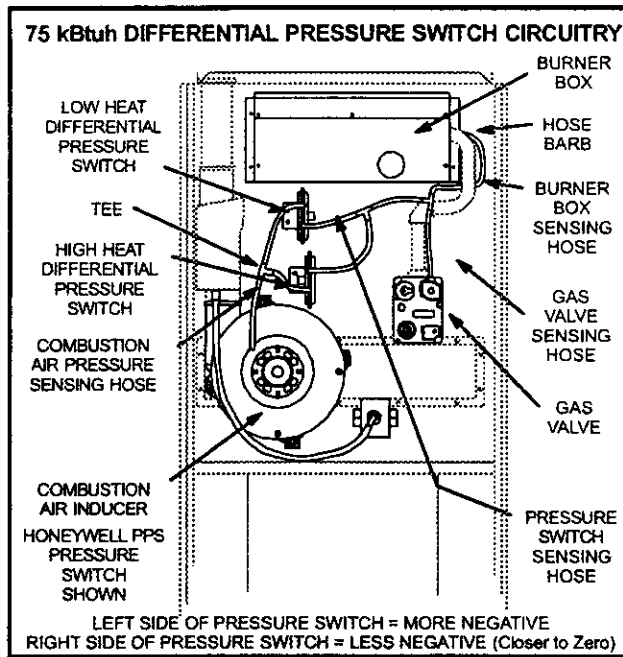

FIGURE 35
- 2 - Disconnect pressure sensing hose from gas valve and plug hose by covering opening with tape or equivalent. Leave barbed fitting on valve open to atmosphere. See figure 35 for differential pressure switch circuitry on 75 kBtuh models. Only 75 kBtuh models are equipped with a second pressure switch. Other models have single pressure switch.